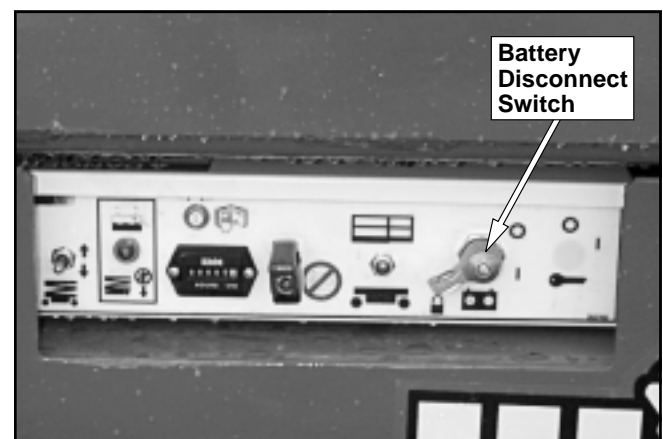

Figure 6.1—Lower Controls
1. Turn the battery disconnect switch off (refer to Figure 6.1).